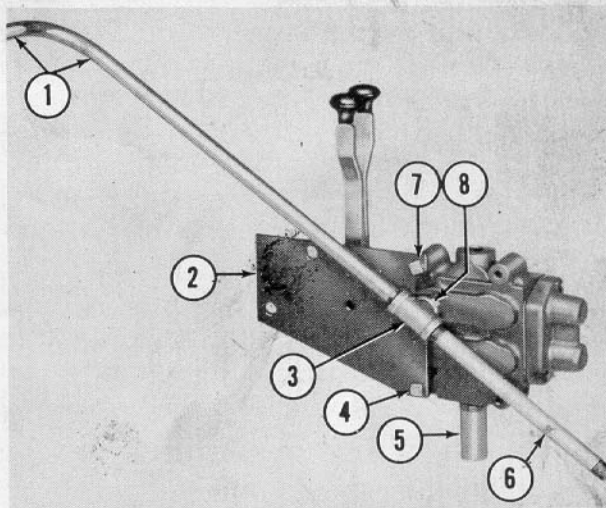

Figure 24
5. Attach the control valve to the equalizer pipe as follows: See Figure 24.
- a. Turn the $\frac{3}{4}$ x 5 inch nipple (5) into the base of the valve.
- c. Turn the close nipple (8) securely into the control valve. This close nipple has a restrictor orifice inside of it. Be sure the end of the nipple in which the small orifice is located (the small hole) goes into the valve.
- d. Turn the tee (3) onto the equalizer pipe (1) and then turn the $\frac{3}{8} \times 8\frac{3}{4}$ inch nipple (6) into the tee as shown in Figure 24.
- e. Lay the control valve on its side, fit the tee (3) on the close nipple (8) and turn the entire equalizer pipe assembly around